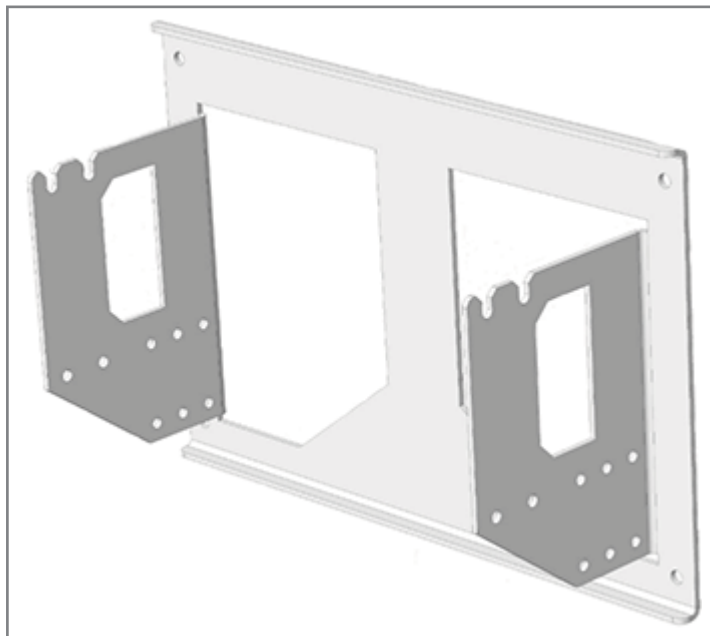

Figure 12. Two CAP Ls Back-to-Back in a Dual Mounting Bracket
In this procedure you will mount two Fiber CAP Ls back-to-back in a single mounting bracket. The steps in this procedure will identify the two CAP Ls as CAP L-1 and CAP L-2, as shown in Figure 12.
- 10 Repeat Step 6 on page 34 through Step 9 on page 36 to mount the CAP L-2 chassis in the Dual Wall Mounting Bracket; install the CAP L-2 chassis back-to-back with the CAP L-1 chassis, as shown Figure 12 on page 32.